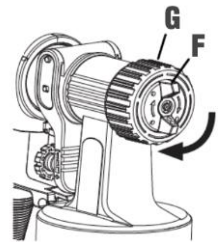

Fig. 4
9. Attach the air hose firmly into the body hose connection point (B) and then the gun hose connection point (J) (Fig. 4).
12. Move the power switch (C) to the ON position.